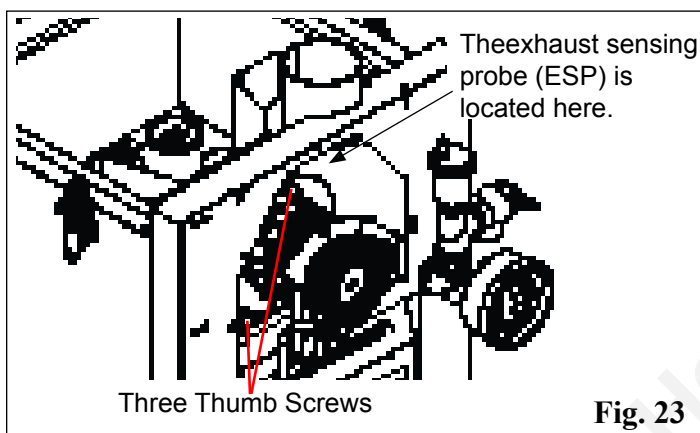

Fig. 23
Loosen the three (3) thumb screws about 4 turns each. See Fig. 23. Hold the motor head with one hand and the blower plate handle with the other hand. Pull outward on the plate handle until the complete unit comes loose. Now rotate the plate counter-clockwise about 1/8 turn. This will allow the complete assembly to be removed from the blower chamber.
**NOTE:** The horizontal flue pipe directly above the boiler is the first place fly ash will settle, due to the slowing of flue gas velocity through horizontal pipe. Cleaning of horizontal venting pipes is very important to the efficiency of this boiler. **NOTE:** The exhaust probe sensing tip extends into this same area. **CARE MUST BE TAKEN NOT TO DAMAGE THE ESP DURING CLEANING.** Bending of the ESP will make it difficult to remove if it should become necessary. See Fig. 23.